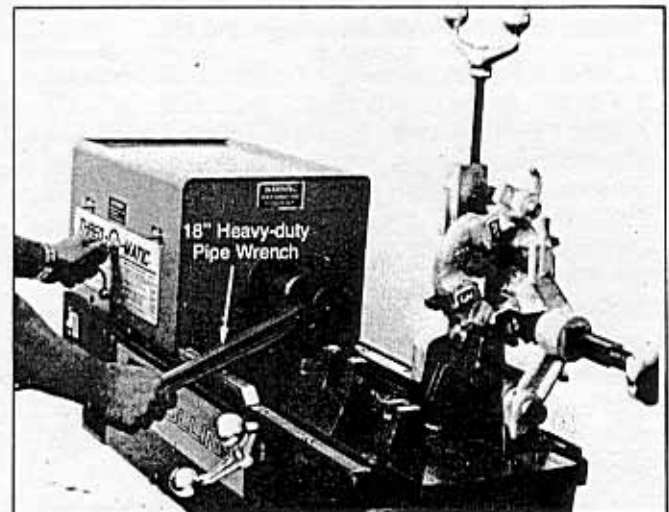

Figure 17 — "Making On"
7. Rest handle portion of pipe wrench on the make-on bar. See Fig. 17.